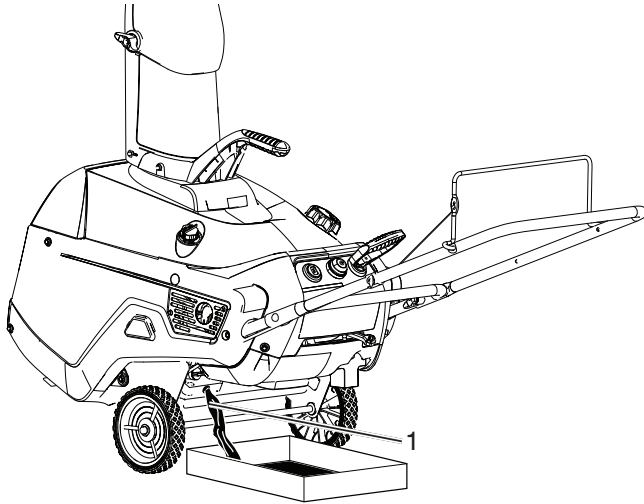

Figure 23
4. Place an oil drain pan under the oil drain plug, remove the oil drain plug, and tip the snowthrower backward and drain the used oil in the oil drain pan (Figure 23).